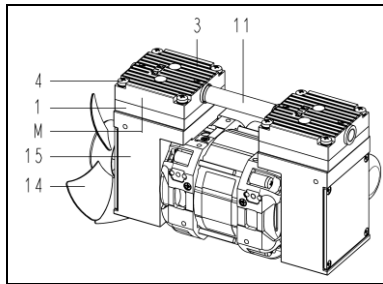
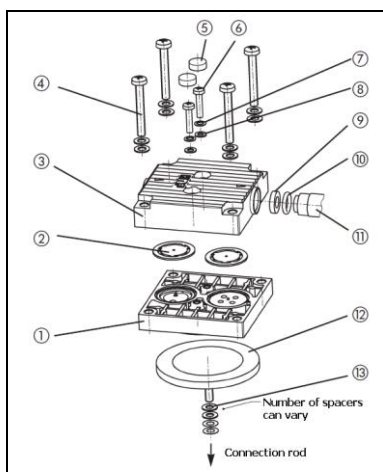
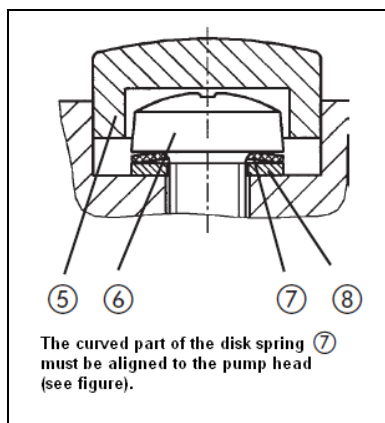

Fig. 6: Pump N816.3 KPE
Fig. 7: Pump head (exploded drawing, symbolic)
Fig. 8: Orientation of disk spring
** according to Fig. 7
Mark the position of head plate (Fig. 6/3), intermediate plate (1) and pump housing (15) relative to each other by a drawing line (M) with a felt-tip pen. This helps avoid incorrect assembly later.
- Turn the fan (Fig. 6/14) to bring one diaphragm (Fig. 7/12) to top dead centre.
- Lift the edge of the diaphragm (Fig. 7/12) and, gripping it on opposite sides, unscrew it by turning anti-clockwise.
- Take the diaphragm spacers (13) off the threaded portion of the diaphragm and retain them.
- Put the diaphragm spacers (13) on the thread of the new diaphragm.
- Turn the fan (Fig. 6/14) until the connecting rod (connecting part between motor shaft and diaphragm) is at top dead centre.
- Screw the new diaphragm (Fig. 7/12), complete with diaphragm spacers (13), into the connecting rod (clockwise) and tighten it by hand.
7. Check that the hole of the valve plates/sealings (2) is centred on the centering pin of intermediate plate (1) by moving them gently sideways.
8. Place the head plate (3) on the intermediate plate (1), in the position indicated by the marking (Fig. 6/M).
9. Check that the head plate (Fig. 7/3) is centred by moving it gently sideways.
10. Join the head plate (3) and the intermediate plate (1) by tightening the two screws (6) (hand-tight).
i For placement of disk spring (7) and washer (8) and for orientation of disk spring see Fig. 8.
11. Install the screw caps (5).
2. Place the two pump heads that are joined by the connecting tube (11) on the housing according to the markings (Fig. 6/M).
Gently tighten the screws (Fig. 7/4), evenly and diagonally.
4. Turn the fan (Fig. 6/14) to check that the pump rotates freely.
5. Now tighten at both pump heads screws (Fig. 7/4) diagonally hand-tight.